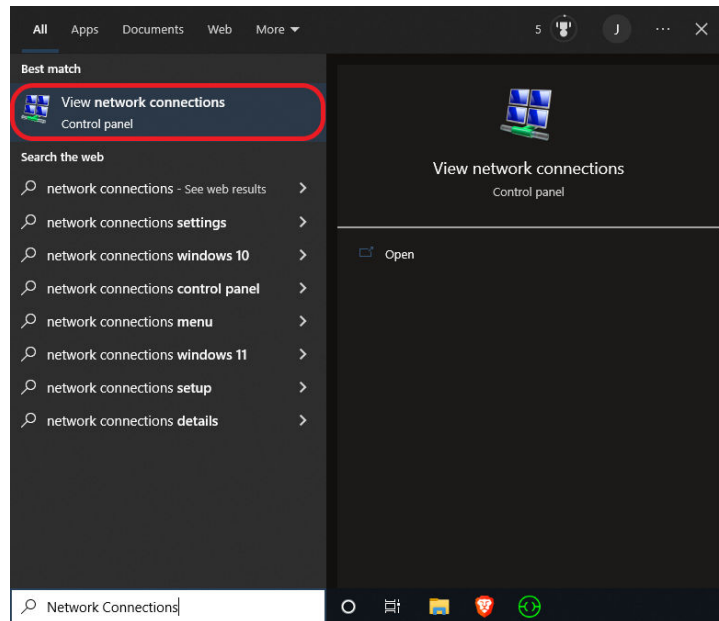

Figure 16: Network Configuration – View network connections
1. Depending on your configuration, click on the search bar or magnifying glass in the lower left corner of your screen (just left of center along the bottom on Window® 11), and type in “Network Connections.” Click ‘View network connections – as highlighted in Figure 16 below – to open the ‘Network Connections’ window.